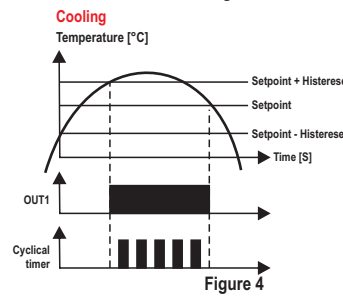

Figure 4
- **Cyclical timer output cycles whenever stage 1 output is on (F22=5):** **stage 3** will cycle only when **stage 1** output is on, observing the times configured in F20 ($\overline{[T \theta n]}$) and F21 ($\overline{[T \theta F F]}$), as shown in Figure 4.